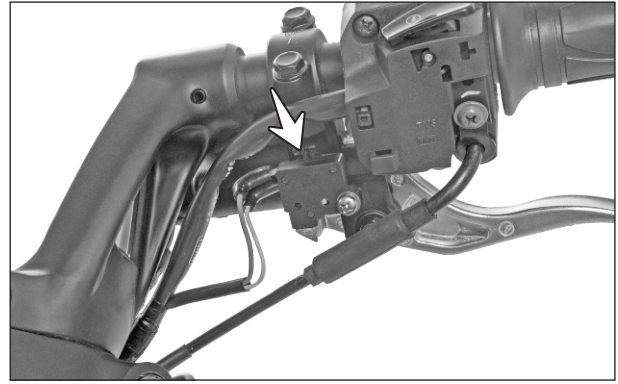

Fig. 5.30
- The DC output from ignition lock is connected to the stop lamp through switch assembly stop lamp front and rear. Stop lamp switch front is fitted on the lever bracket assembly RH. (Fig. 5.30)